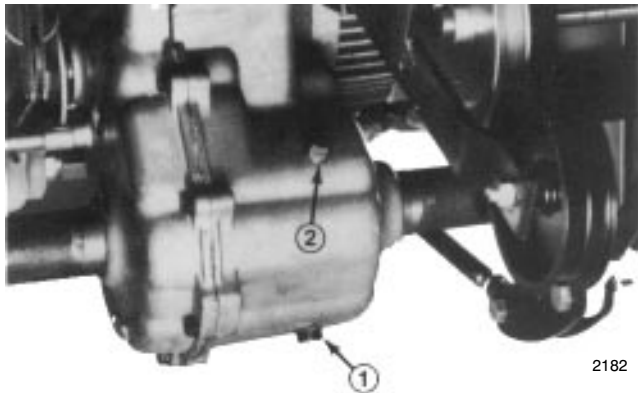

Figure 35
2. Clean area around drain plug and place a drain pan below drain plug on axle (Fig. 35).
3. Remove drain plug and allow oil to flow into drain pan (Fig. 35). After oil is drained, reinstall drain plug.
4. Remove fill plug and fill to plug level with SAE EP-90 wt. oil (approximately 44 oz.) (Fig. 35).